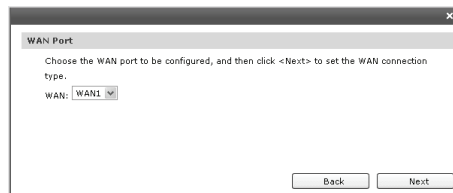

Figure 5-6 WAN Port
5. Select the WAN port you want to use as the Figure 5-6 shows, and then click **Next** to load the **WAN Connection Type** screen.